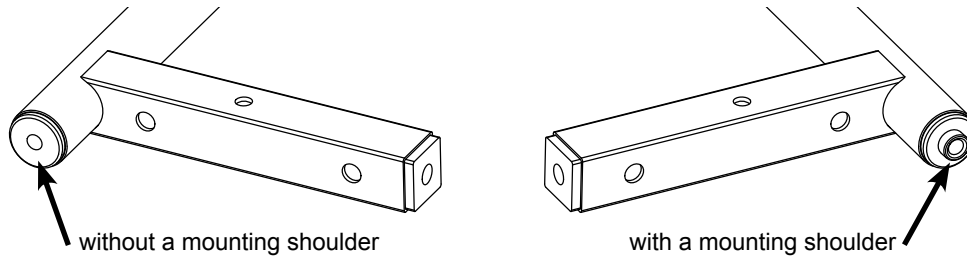
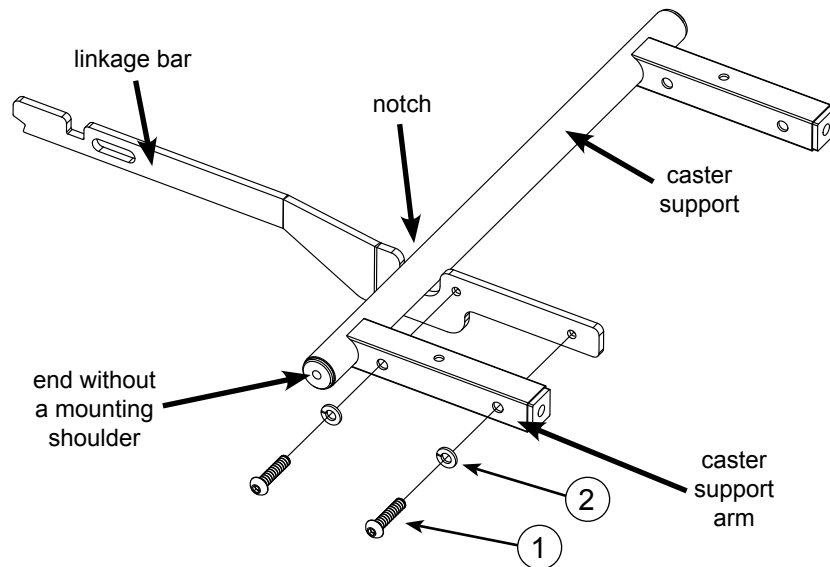

Fig. 24a
Fig. 24b
6. Locate the caster support, the linkage bar, two M8 x 35 button head socket bolts, and two M8 x 13.6 lock washers. Note that one end of the caster support has a mounting shoulder and the other end does not (see Fig. 24a). Mount the linkage bar to the inside of the caster support arm nearest the end without the mounting shoulder as shown in Fig. 24b. Use the button head sockets bolts, lock washers, and a 5 mm hex key to mount the linkage bar to the caster support arm. Make sure the linkage bar is positioned as shown in Fig. 24b with the caster support in the notch on the linkage bar.